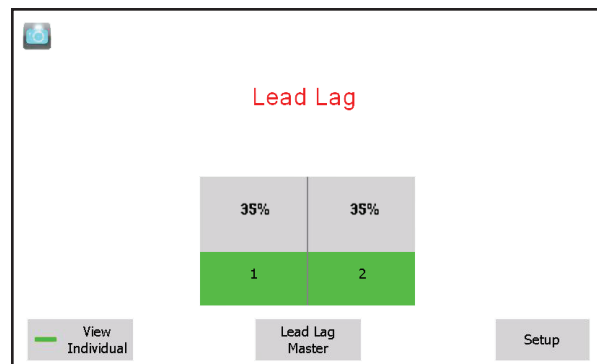

**Fig. 29 - 'home' screen. Single NeoTherm system**
1. Start at the 'home' screen (Fig. 29).
1. From the 'home' screen (Fig. 29), press the button for Lead/Lag Master.